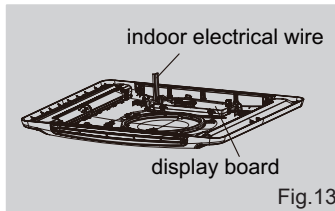

Fig.13
2. As shown in Fig.13, the indoor unit has one set of control signal wires, with 1 wiring terminals in total.